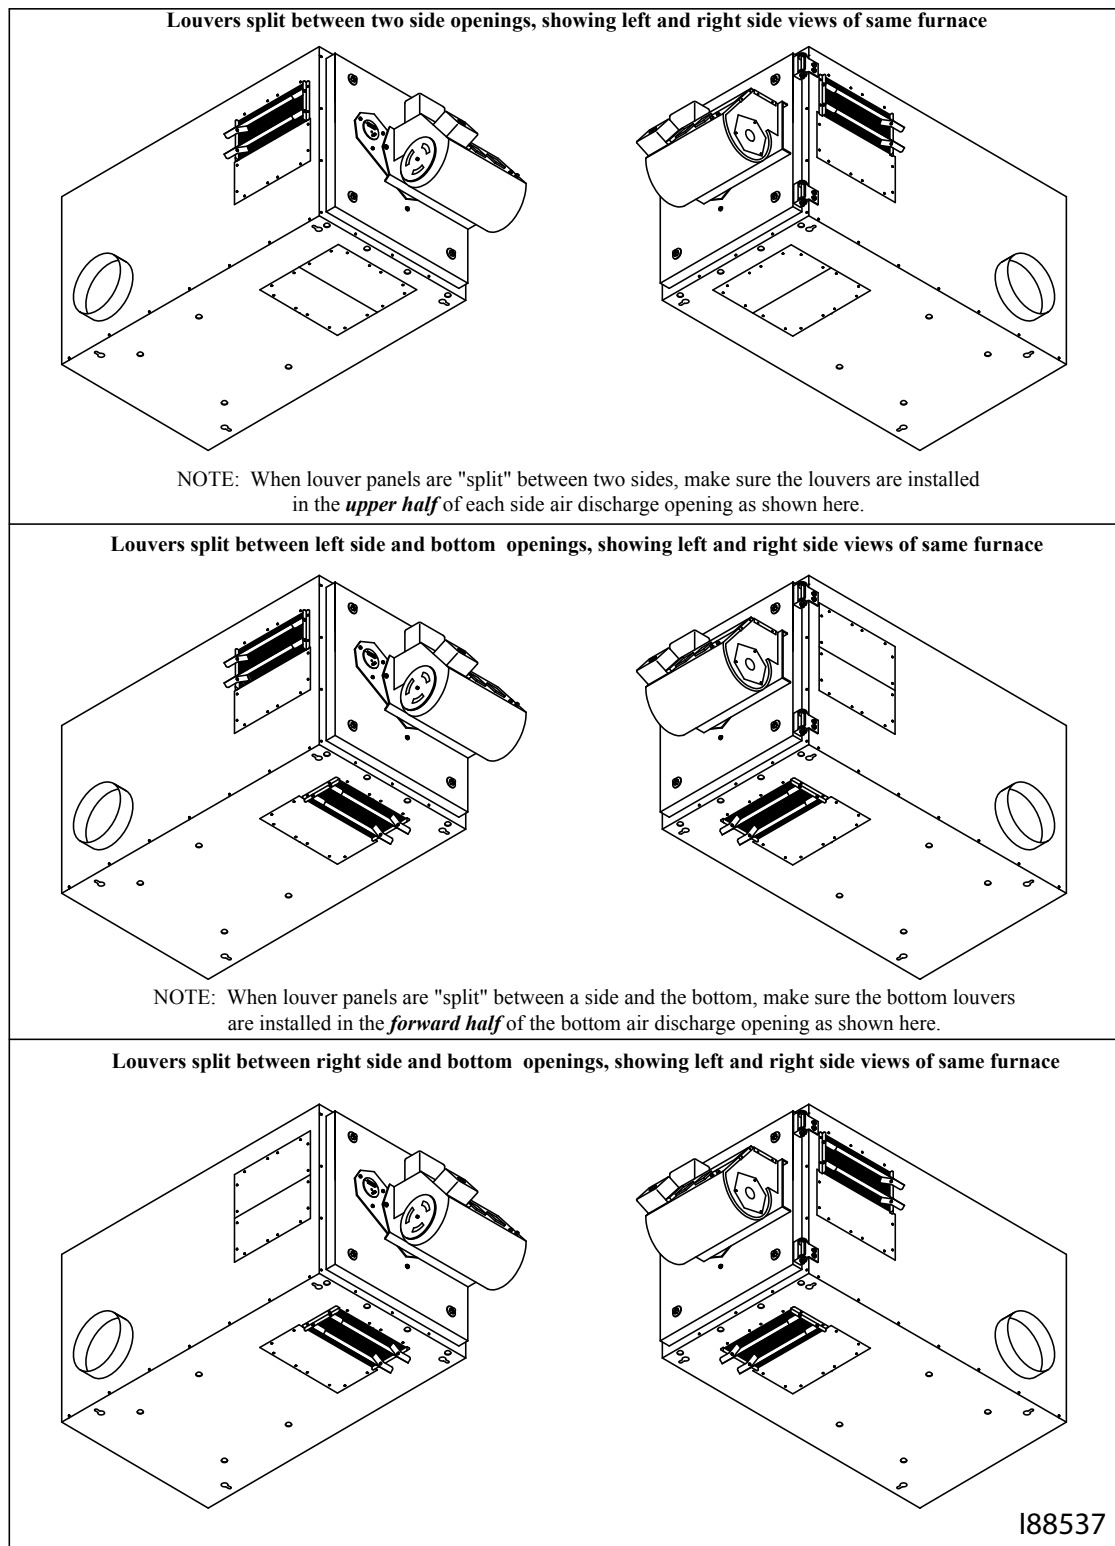

Figure 3J - Sample Split Louver Installations for Partial Air Discharge on Sides and/or Bottom
- Note that each furnace model supplied with (2) louver sections which may be installed ***together*** on one side or the bottom as shown here OR the louvers may be ***split*** for partial air discharge on each side and/or bottom as shown in Figure 3J.